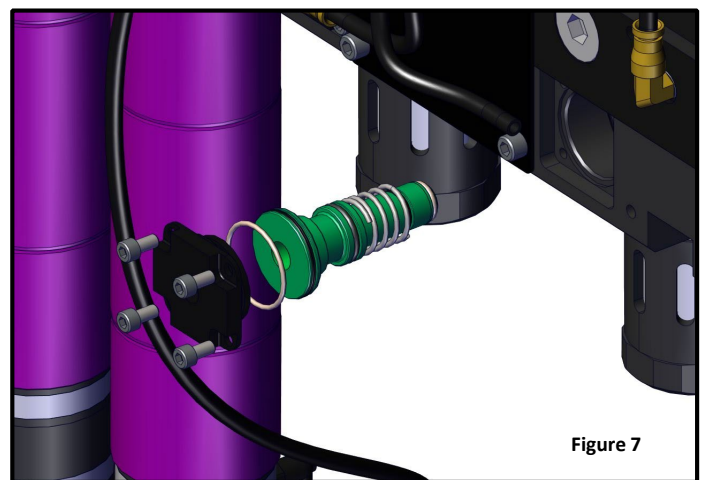

Figure 7
- Using a 4mm hex key wrench, remove the four socket head cap screws holding the piston cover in place. *Figure 7*
- Using a finger or a 1/2-13 bolt, remove the piston from the piston bore. Be sure to remove the piston spring. *Figure 7*
- Using a 4mm hex key wrench, replace the four socket head cap screws holding the piston cover in place. Tighten until snug, then add 1/4 turn. *Figure 7*